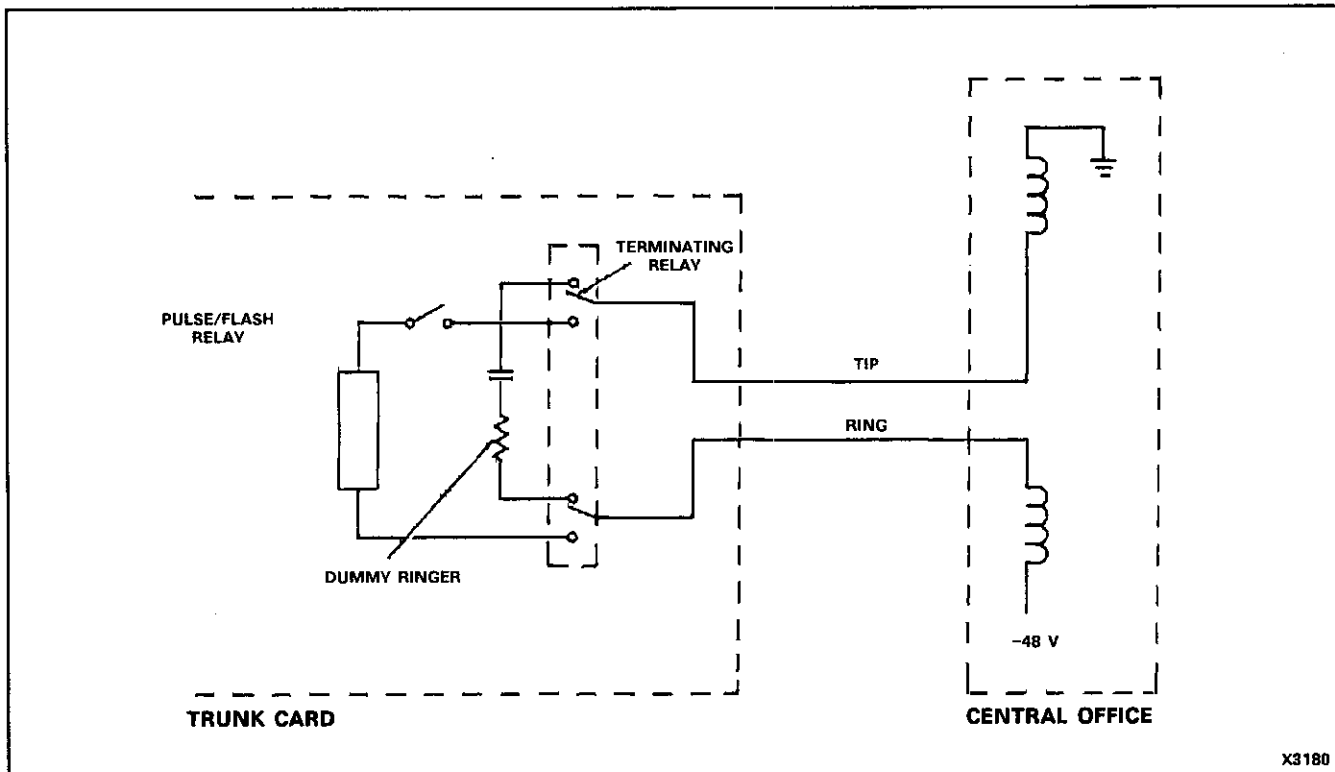

Figure 2-7 Central Office Trunk Circuit - Loop Start
2.40 Loop Start (refer to Figure 2-7). To seize a loop-start trunk, the trunk circuit places a termination across TIP and RING. The CO senses the current flow through the loop and signals that the trunk is available by providing dial tone.